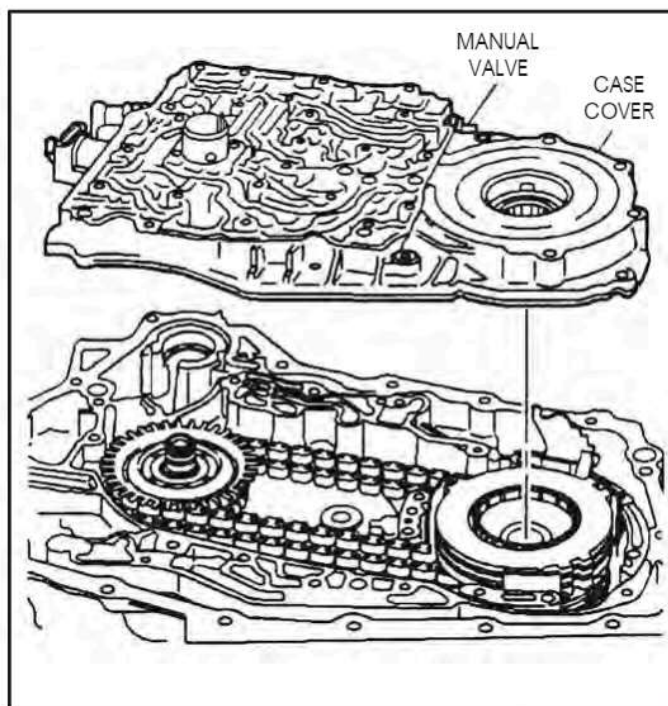

Figure 177
84. Install the pre-assembled case cover onto the transaxle, as shown in Figure 177, ensuring that thrust washers remain in place.
85. Make sure the manual valve is held in place & push case cover down over the dowel pins in the case (See Figure 177).